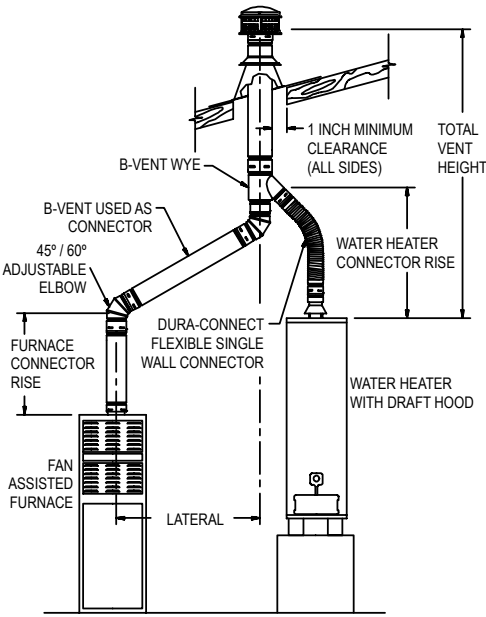
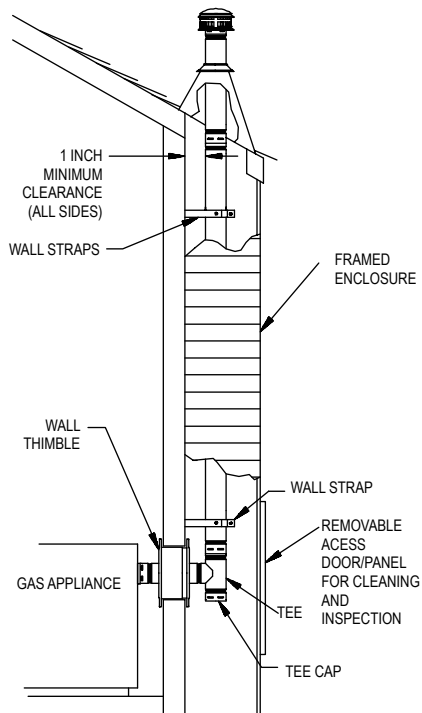

**Figure 2**
Figure 11
**8. Tees and Wyes.** Tees and Wyes are used to combine connectors from 2 or more appliances into a common vent as shown in **Figures 2 and 3**. A Tee should be used in a through-the-wall application, (**Figure 11**), as they have a removable Tee Cap (available as a separate item) attached to the bottom. This Tee Cap may be removed in order to inspect the system, or to clean out debris or collected condensate from the common vent. Wall Straps should be used to support the vertical pipe as needed to provide a secure installation. Wall Straps every four feet are required.
second floor. DuraVent does not recommend installation of B-Vent Pipe on the outside wall of a building, particularly in cold climates. If it is necessary to do this, enclose the outside portion of the system in a chase, as shown in **Figure 11**. Consult the Local Authority prior to construction. Note that the enclosure requires an access door for inspection and maintenance purposes.